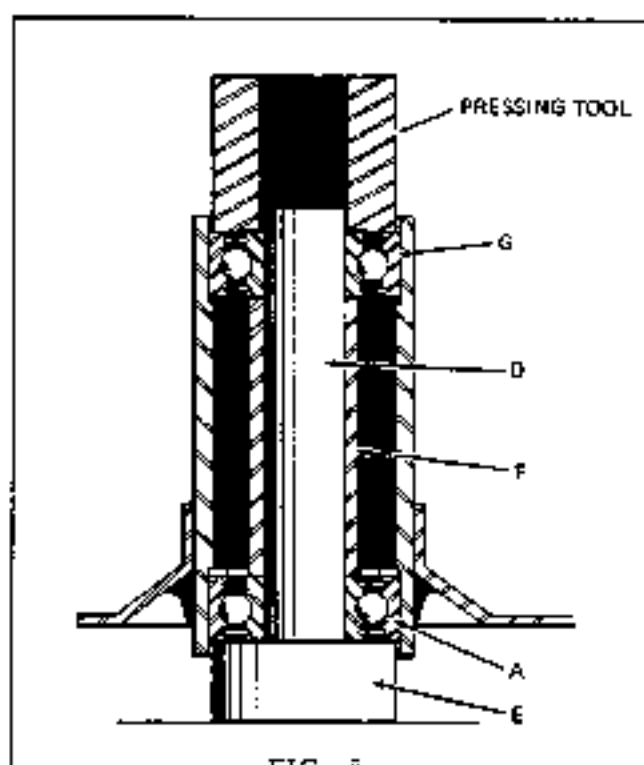

FIG. 8
2. Insert a 'dummy shaft' 'D' through the bore of the upper bearing and invert the tube assembly. Rest the upper bearing 'A' on a surface 'E' that will give equal support to both the inner race and outer race of the bearing. Refer to Fig. 8.
washer to press on outer race only. Press the inner race and outer race at the same time. Refer to Fig. 8. In effect, the pressing tool should push the outer race of the bearing .005" deeper into the tube than the inner race.